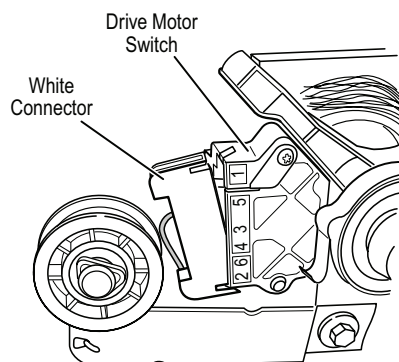

Figure 8. Remove white connector.
5. Remove the white connector from the drive motor switch. See Figure 8.